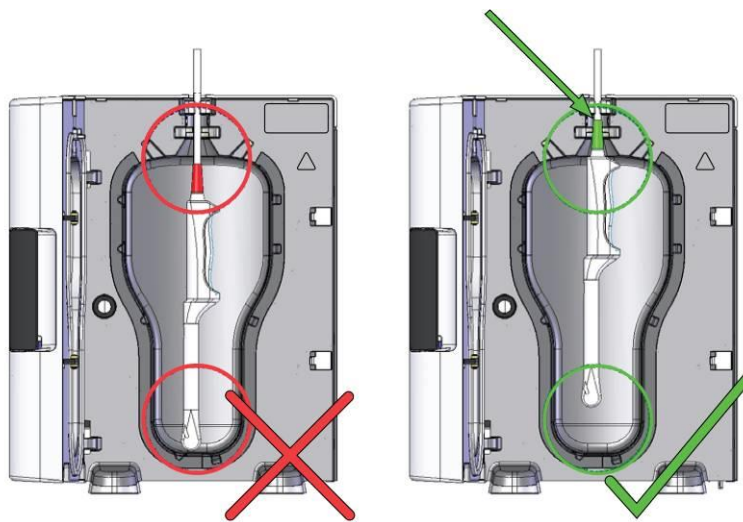

Figure 10
4. Additionally the probe shall be suspended with the tip located no lower than the line across the chamber (see Figures 10 & 11)